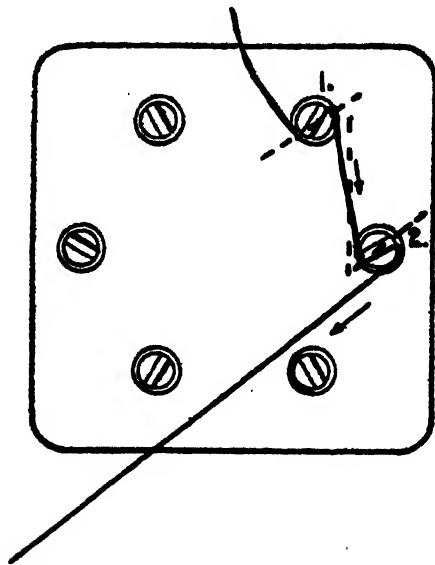

FIGURE 16
* (1) Ensure that the wire is pulling the screws CLOCKWISE.
* (2) Grasp the wire only at the end with the duckbills.
* (3) Ensure that lockwire is kept TIGHT between screws.
* Keep a TIGHT "Z" pattern. See figure 16.